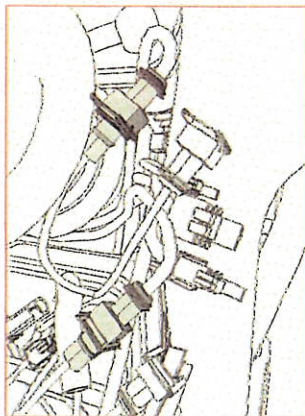

Figure 21
13. Connect the TFI harness to the injector leads paying attention to the color code. Install the TFI injector connectors on their respective injectors. The connectors install with the wire bail facing down and should "click" when locked on the injector. (Figure 21,22)